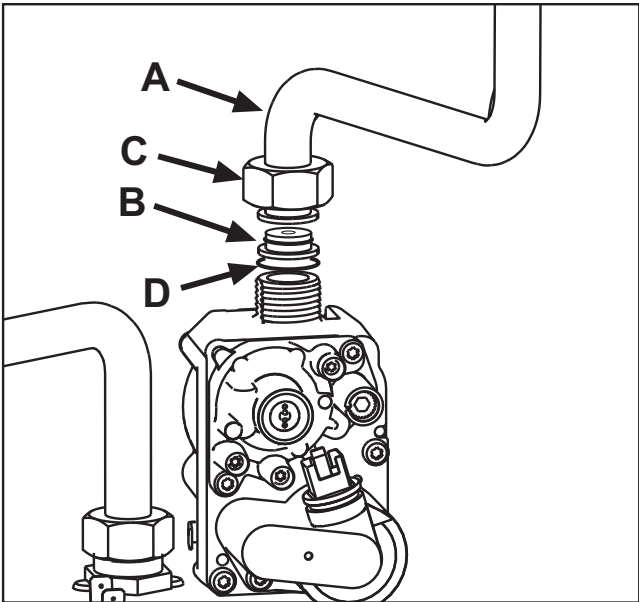

fig. 22
- Unscrew ring C and remove gas pipe A from the gas valve (see fig. 22).
- Replace nozzle B inserted in the gas pipe with that contained in the conversion kit, interposing seal D (see fig. 22).